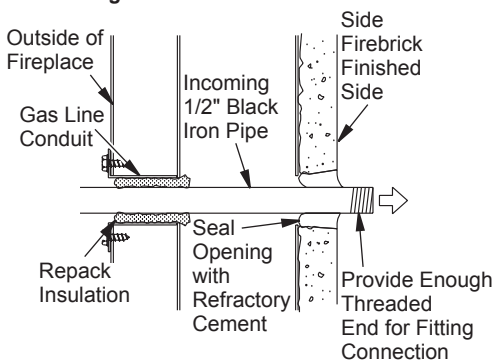

Figure 25 - Gas Line Installation
3. Run a 1/2" black iron gas line into fireplace through the rear at gas line conduit sleeve (if using a raised platform, add height). Provide sufficient gas line into fireplace chamber for fitting connection (see Figure 25).